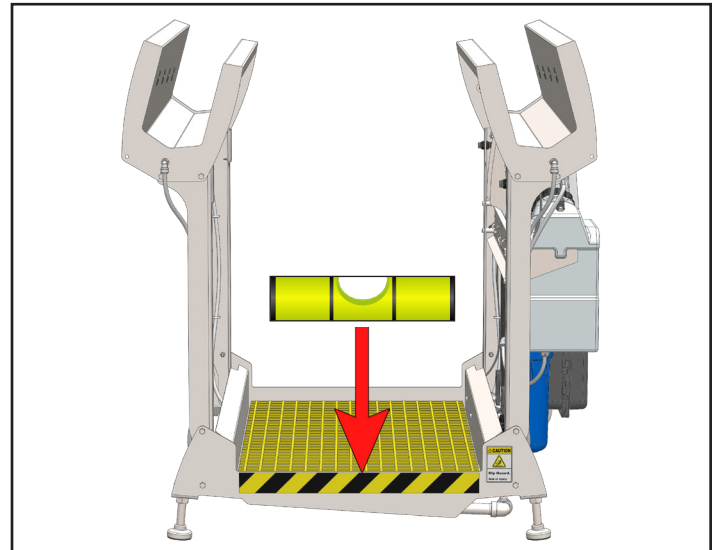

Fig. 6.1: Level and stabilize unit using a leveling device
3. Use a level to make sure the unit is stable and leveled in all directions [Figure 6.1].